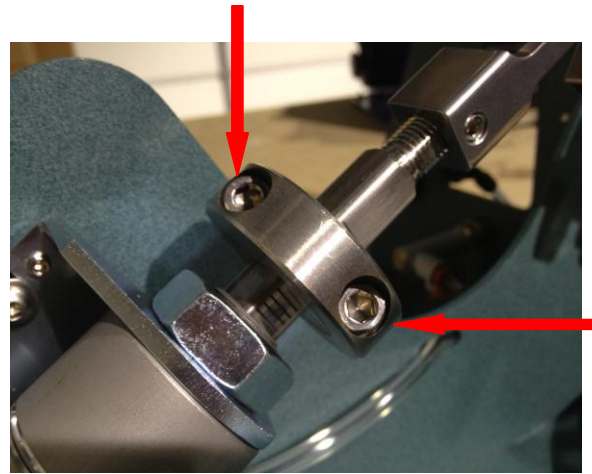

Figure 4
- Break loose the two bolts on each of the three stop collars using a 3/16" hew wrench. Position the stop collars at the same indicator mark on all three cylinder shafts. (**Figure 4**)